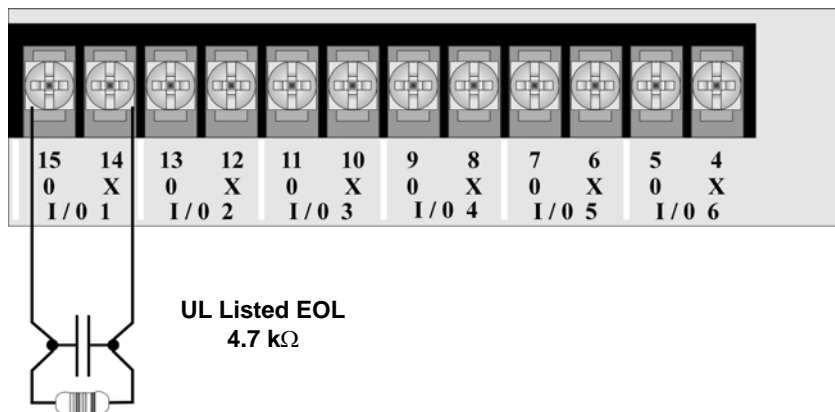

Figure 3.14 Class B Input Switches
- Wire the Class B switch as shown in Figure 3.14.